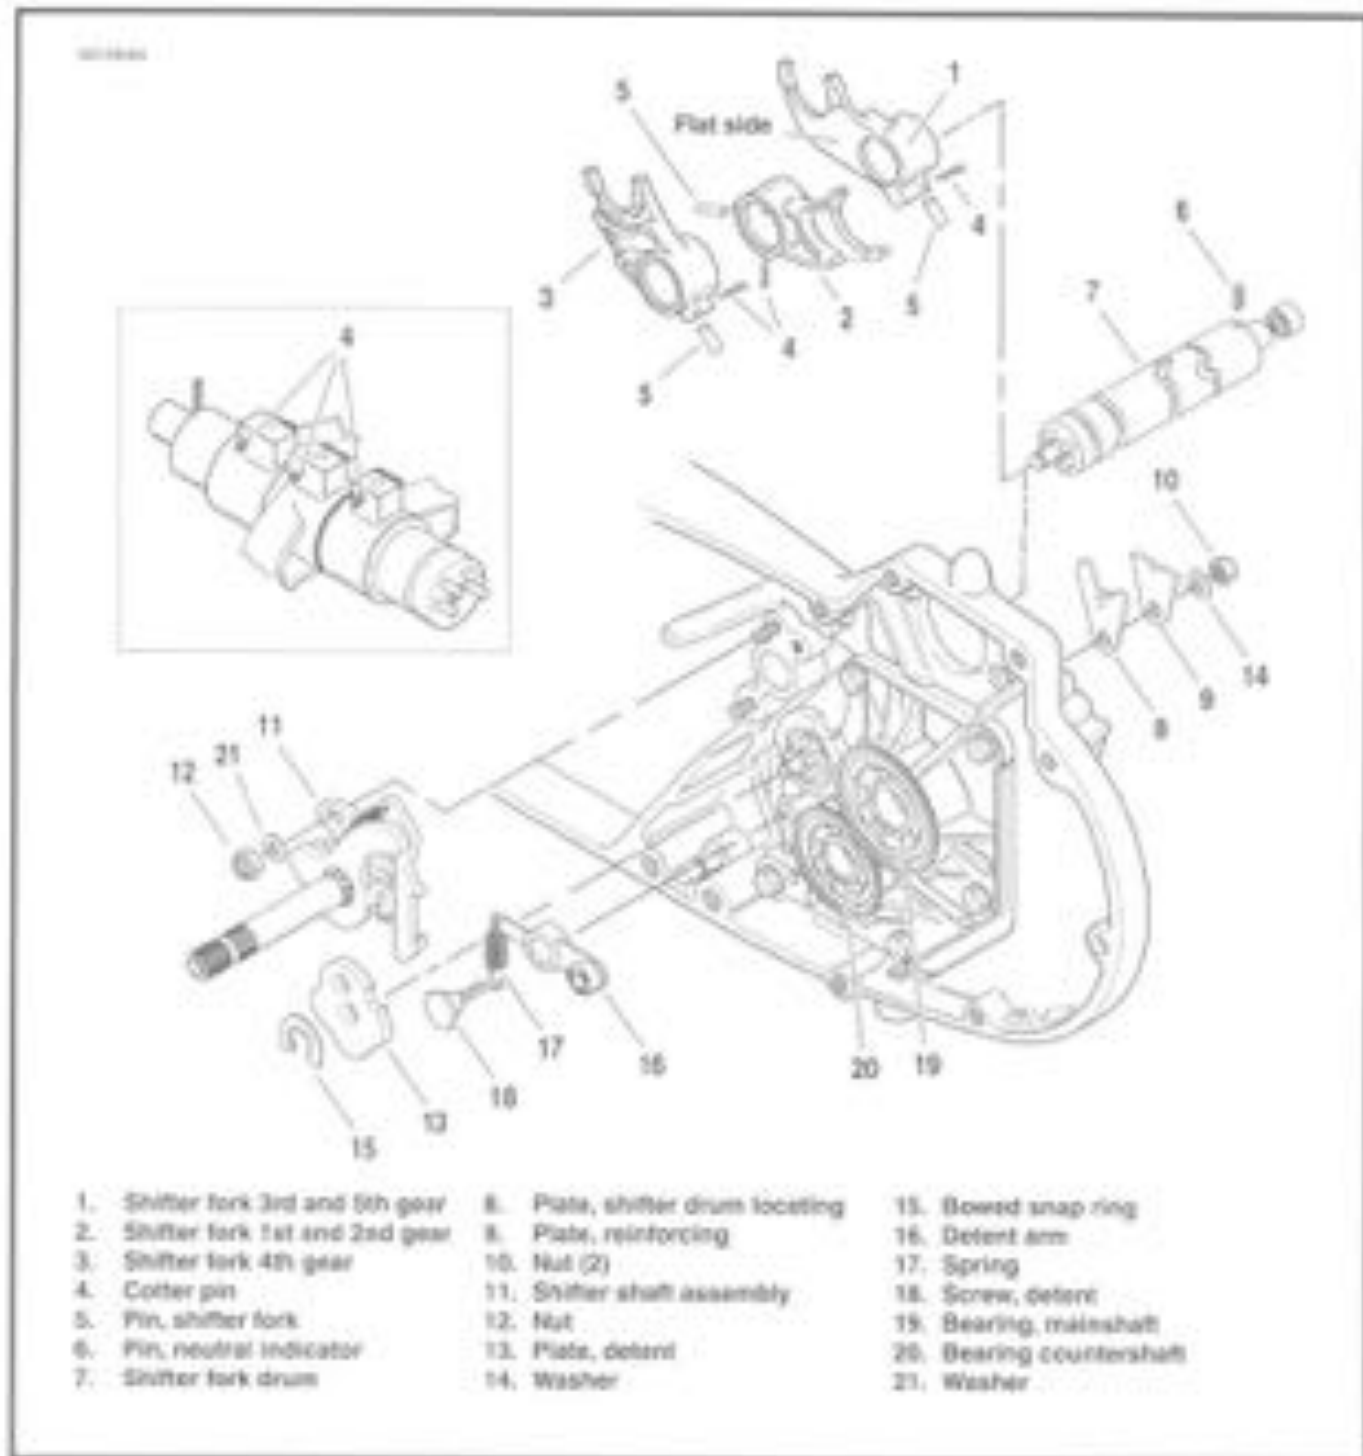
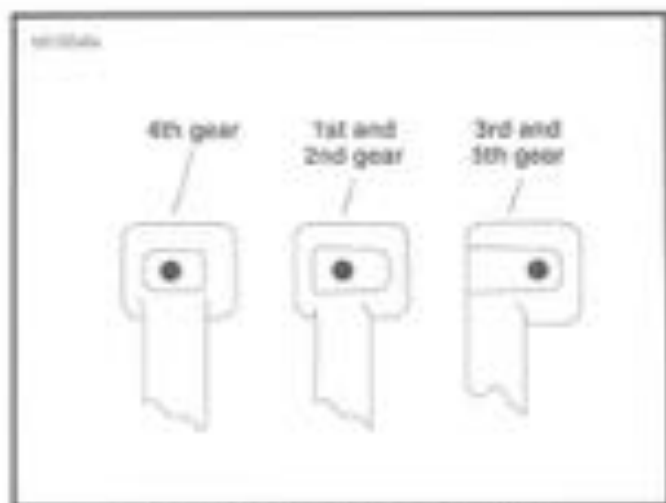

Figure 6-24. Shifter Mechanism
Figure 6-25. Shifter Fork Identification
2. See Figure 6-24. Remove nut (12), washer (14), screw (18), drum lock plates (8, 9), detent arm (16), and spring (17).
3. Remove and discard the three fork cotter pins (4).
- See Figure 6-24. Clean all parts except bearings (19, 20) with solvent.
- Inspect shifter drum (1) for cracks or wear; replace if necessary.
- See Figure 6-25 for shifter fork identification. See Figure 6-24. Lubricate the shaft bore in fork (1) with Sport Transmission Lube. Place 3rd and 5th gear shifter fork (1) in the fork groove of mainshaft 2nd gear. Be sure the flat side of fork is facing the access cover.
- Lubricate the shaft bore in fork (2) with Sport Transmission Lube. Place 1st and 2nd gear shifter fork (2) in the fork groove of countershaft 3rd gear. Be sure the flat side of fork is facing away from the access door.
- Lubricate the shaft bore in fork (3) with Sport Transmission Lube. Place 4th gear shifter fork (3) in the fork groove of mainshaft 1st gear. Be sure the flat side of fork is facing away from the access door.
- See Figure 6-24. Position the shifter drum shaft so that the neutral indicator switch activator pin (8) is upward. The shaft is then in the neutral position. Insert the pin end of drum shaft (7) through the hubs of shifter forks (1), (2) and (3) and through the bearing in access cover.
- Align the hole through the top of each shifter fork with the appropriate cam groove in the shifter drum. Lubricate pins (5) with Sport Transmission Lube. Drop pins (5) through the holes in shifter forks. With a small screwdriver press on the pins while manipulating the forks back and forth until the pin seats in the drum groove. Secure pins in place with new cotter pins (4).
To prevent possible cotter pin damage, the pins must be inserted through the shifter forks as shown in the inset of Figure 6-24.